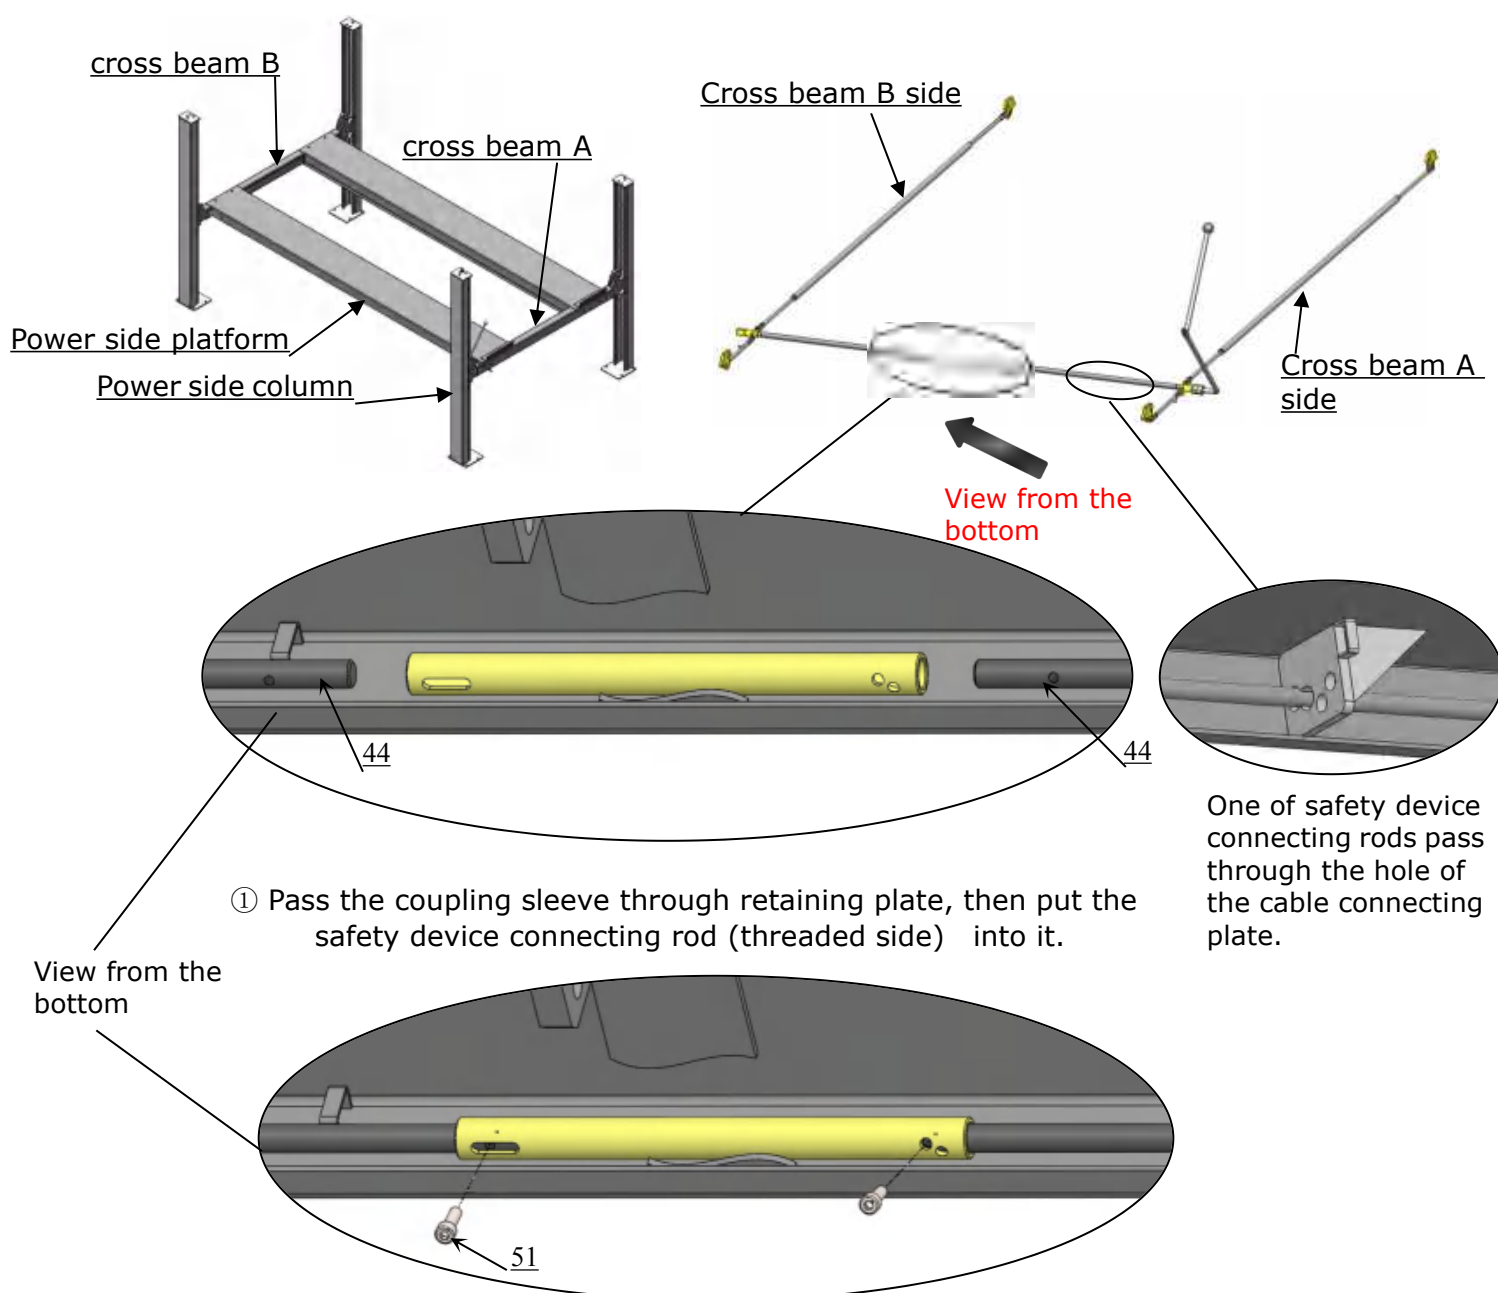

Fig. 24
2.1, Coupling sleeve installation illustration when power side column is in the position as shown below. See fig 24.